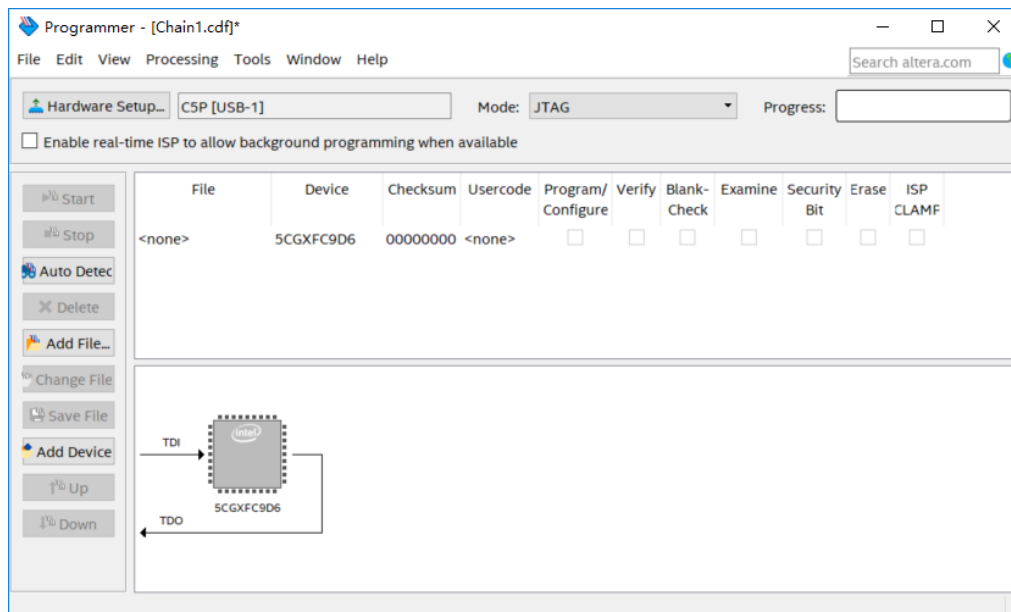

Figure 3-4 FPGA detected in Quartus programmer
3. The FPGA is detected, as shown in **Figure 3-4**.